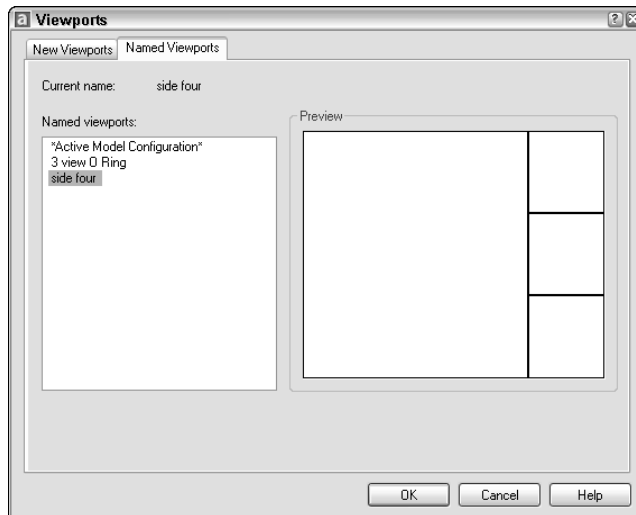

Figure 8-18: The Named Viewports tab lists saved viewport configurations.
1. Choose View ⇨ Viewports ⇨ Named Viewports. AutoCAD opens the Viewports dialog box with the Named Viewports tab on top, shown in Figure 8-18.